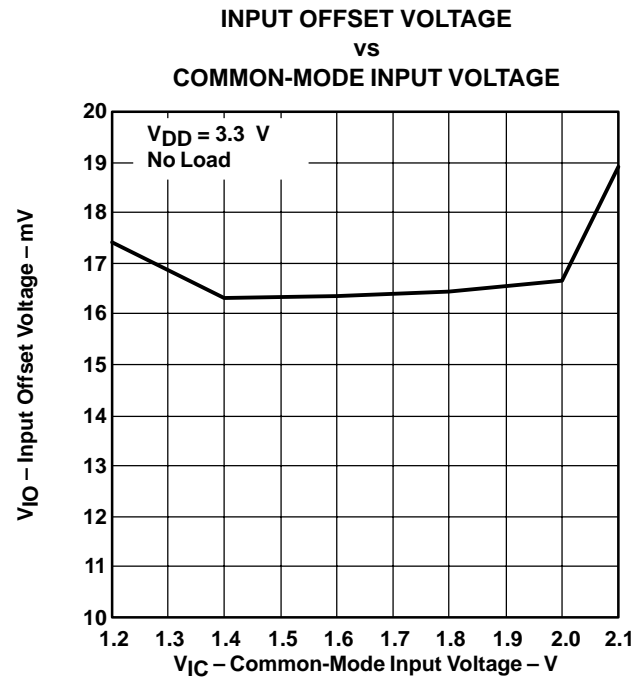

Figure 17
The transfer function for a second-order low-pass filter (Figures 17 and 18) is shown in equation (5):